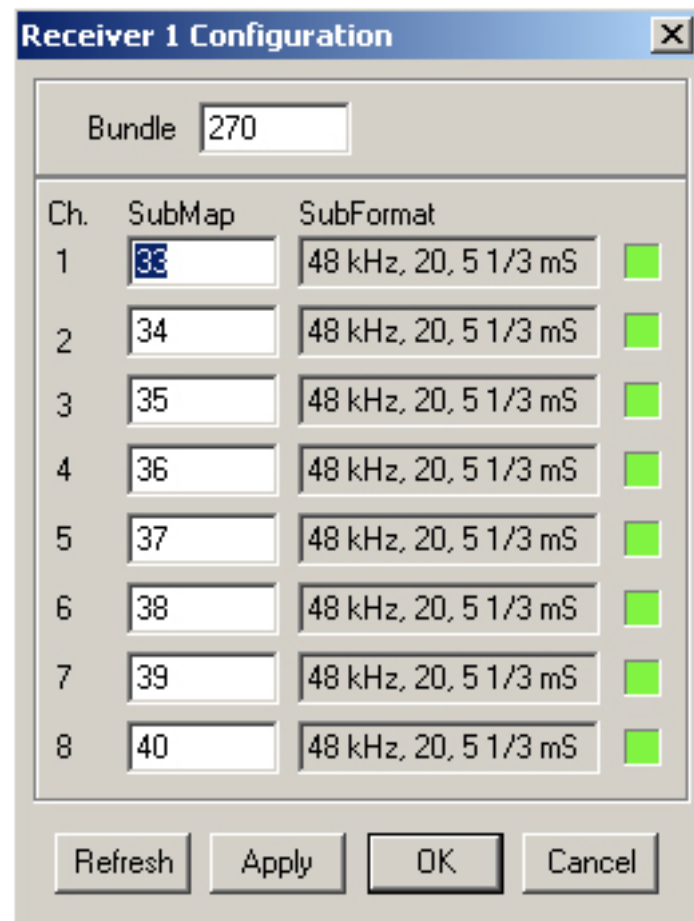

Figure 4-3: CobraNet™ Receiver settings page
- Receiver setup: This section covers the CobraNet™ receivers (see Figure 4-3). The CS496112 chipset allows for up to 8 receivers, each of up to 8 channels, subject to an overall channel count of 2 analog output channels and 8 network audio streaming channels.. The settings are:-